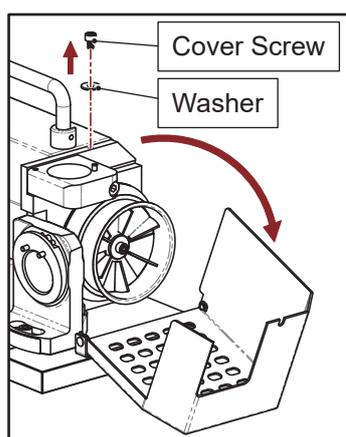

Fig. 16-2
- ③ Loosen the screw from the grinding wheel cover to open the cover. (Fig. 16-2)